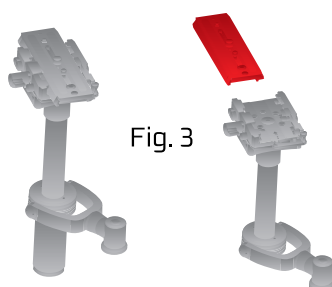

Fig. 3
6. Slide the camera/quick-release assembly into the sled. You should hear the locking pin click into place. (Fig. 3)